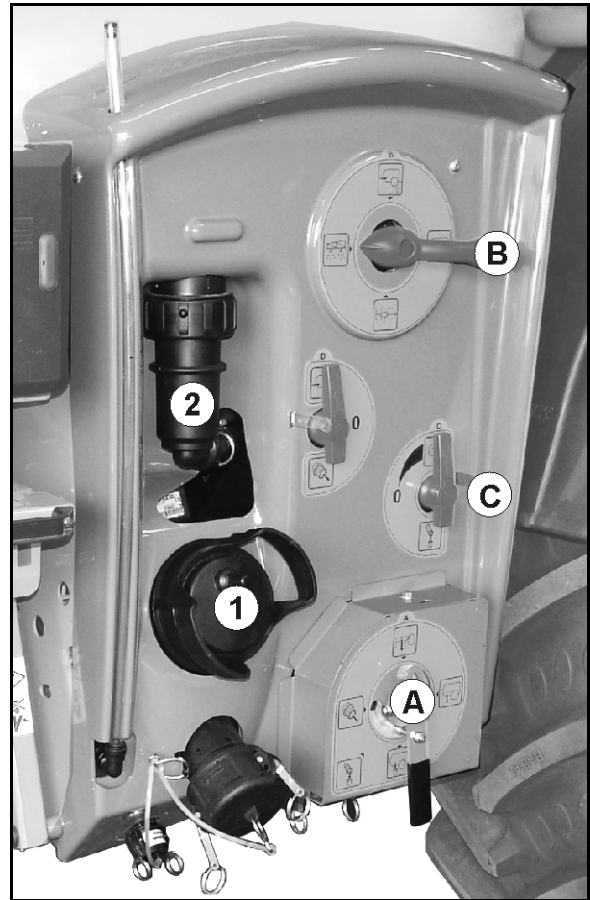

Fig. 152
2. Remove and clean the suction filter (Fig. 152/1); see **Seite 187**.
- 5.1 Drain the pressure filter (Fig. 152/2) via tap **C**.
6. Unscrew the supply hose (Fig. 153/1) from the control valve. The supply hose connects the VARIO switch tap on the pressure side (Fig. 152/**B**) with the suction chest.
7. Unscrew the return hose (Fig. 153/2) for the part width section valve from the VARIO switch tap on the suction side (Fig. 152/**A**).
9. Remove the internal cleaning hose (Fig. 153/3) for the VARIO switch tap on the pressure side (Fig. 152/**B**).
15. Move the VARIO switch tap on the suction side (Fig. 152/**A**) and the VARIO switch tap on the pressure side (Fig. 152/**B**) several times between all their switch positions.